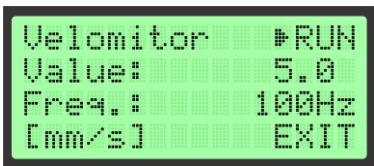
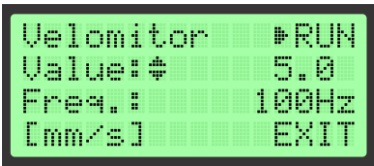

Figure 95 Submenu Screen 2
Figure 96 Changing the Value
User can navigate through this submenu by using Up (▲) and Down (▼) keys. By pointing to the submenu item and by pressing Enter (E) the user will select a parameter which he or she would like to change. The selection of the desired Velomitor sensitivity is confirmed by pressing Enter (E). Pointing to the Menu Item NEXT and pressing Enter (E) will bring the final submenu system (See *Figure 95*), which allows the user to set the desired Velomitors output value (See *Figure 96*) and frequency of the output signal (See *Figure 97*).